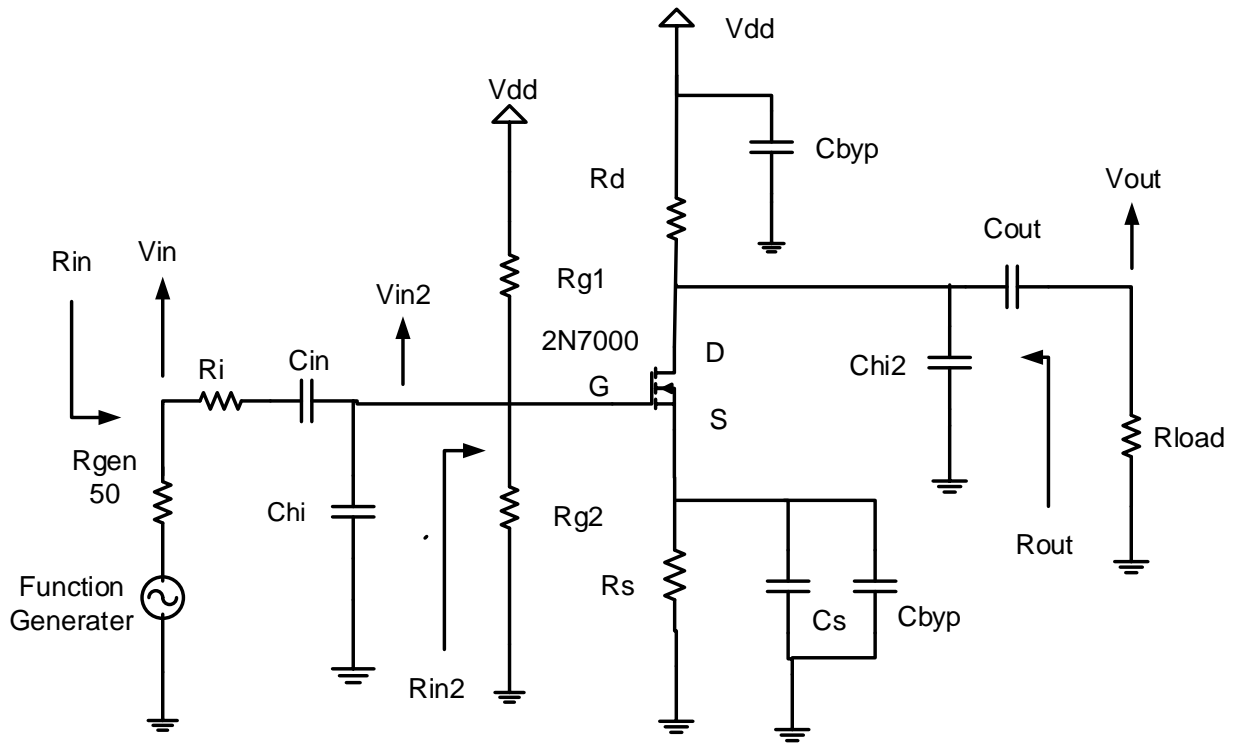

Figure 1. Common-source amplifier circuit.
Two of the most popular configurations of small-signal MOSFET amplifiers are the common source and common drain configurations. These two circuits are shown in Figures 1 and 2 respectively. The common source and common drain amplifiers, like all MOSFET amplifiers, have the characteristic of high input impedance. The value of the input impedance for both amplifiers is limited only by the biasing resistors R_{g1} and R_{g2} . Values of R_{g1} and R_{g2} are usually chosen as high as possible to keep the input impedance high. High input impedance is desirable to keep the amplifier from loading the signal source. One popular biasing scheme for the CS and CD configurations consists of the voltage divider R_{g1} and R_{g2} . This voltage divider supplies the MOSFET gate with a constant dc voltage. This is very similar to the BJT biasing arrangement described in common emitter amplifier. The main difference with the BJT biasing scheme is that ideally no current flows from the voltage divider into the MOSFET.
For this project, you will design two distinct amplifiers—the common source and the common drain. These circuits are shown in Figure 1 and 2 respectively. You should refer to your class notes, textbook, instructor, and other reference material to help you design the circuits. Start with the DC design and then move onto the AC design.
6.1. Construct the CS amplifier shown in Figure 1. Remember that R_{gen} is internal to the function generator $F_{gen} = 2kHz$. Record the values of the bias network resistors and the capacitors you used in the circuit. $R_L = 5.6k\Omega$